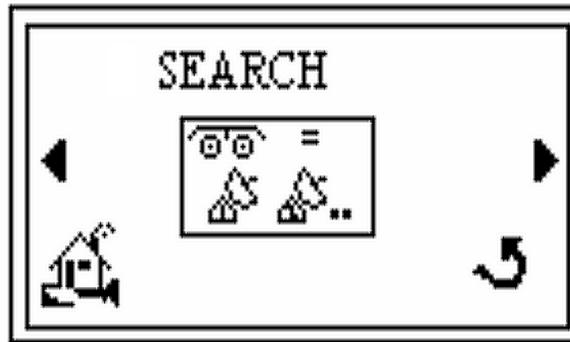

Figure 2-30 Search Screen
5. Press the  and the *Search* screen appears (Figure 2-30).